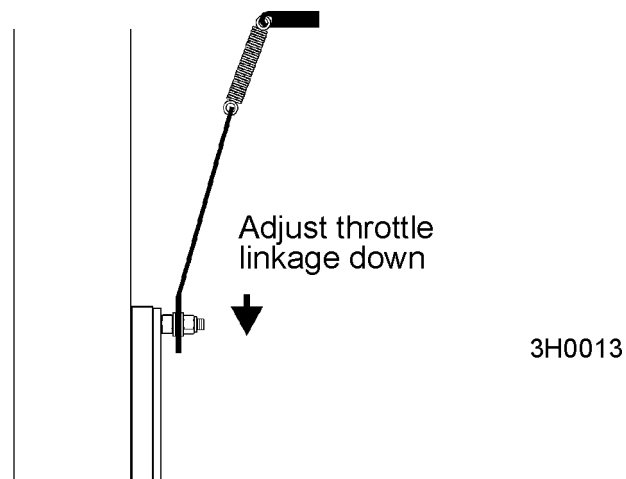

FIG. 3-5
**See Figure 3-5. NOTE:** The engine should start to throttle as soon as you start moving the clutch handle down. If the engine dies instead, restart the engine and adjust the throttle linkage down as far as possible without affecting low-end RPM. With the engine idling and the clutch disengaged, loosen the mounting bolt and pull the throttle link down to a point just above where it affects the low-end RPM. Retighten the mounting bolt.